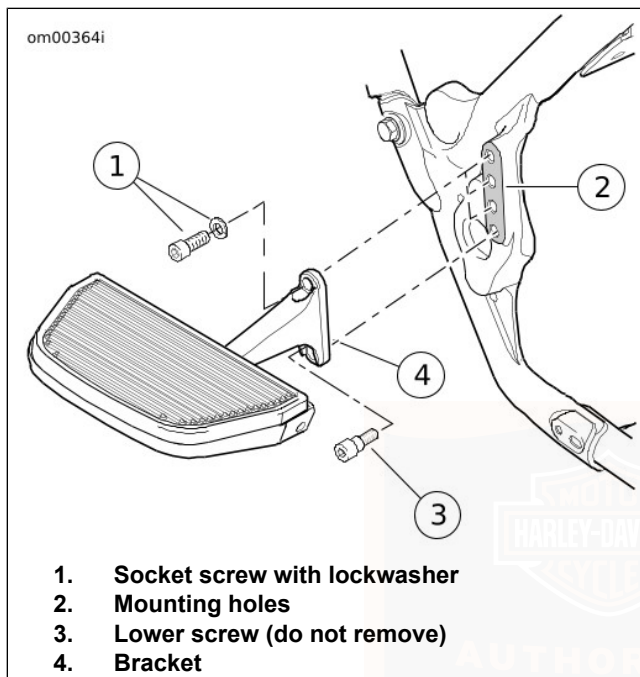

Figure 24. Passenger Footboard
1. See Figure 24. Remove socket screw with lockwasher (1) from top of footboard bracket (3).